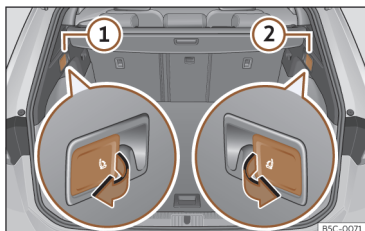

Fig. 115 In the luggage compartment: levers to unlock the rear backrest.
- Pull the remote release lever of the left part»» **Fig. 115** ① or right part ② of the backrest in the direction of the arrow. The released part of the rear seat backrest is folded automatically down and forwards.